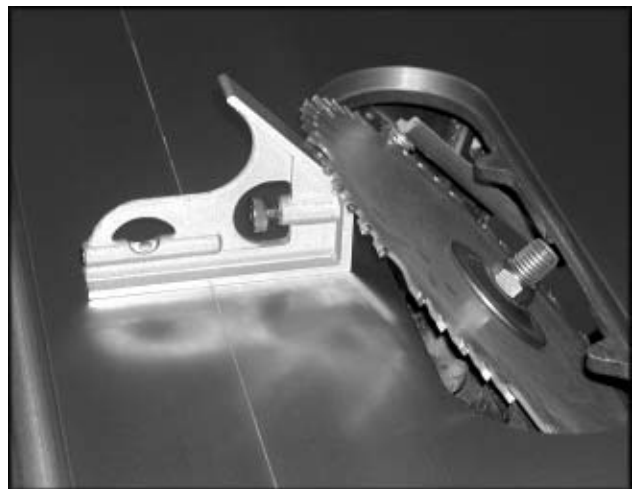

Fig. 33
8. Set the blade at 45° to the table by turning the blade tilting handwheel counter-clockwise as far as it will go. Place a square on the table, see Figure 33.